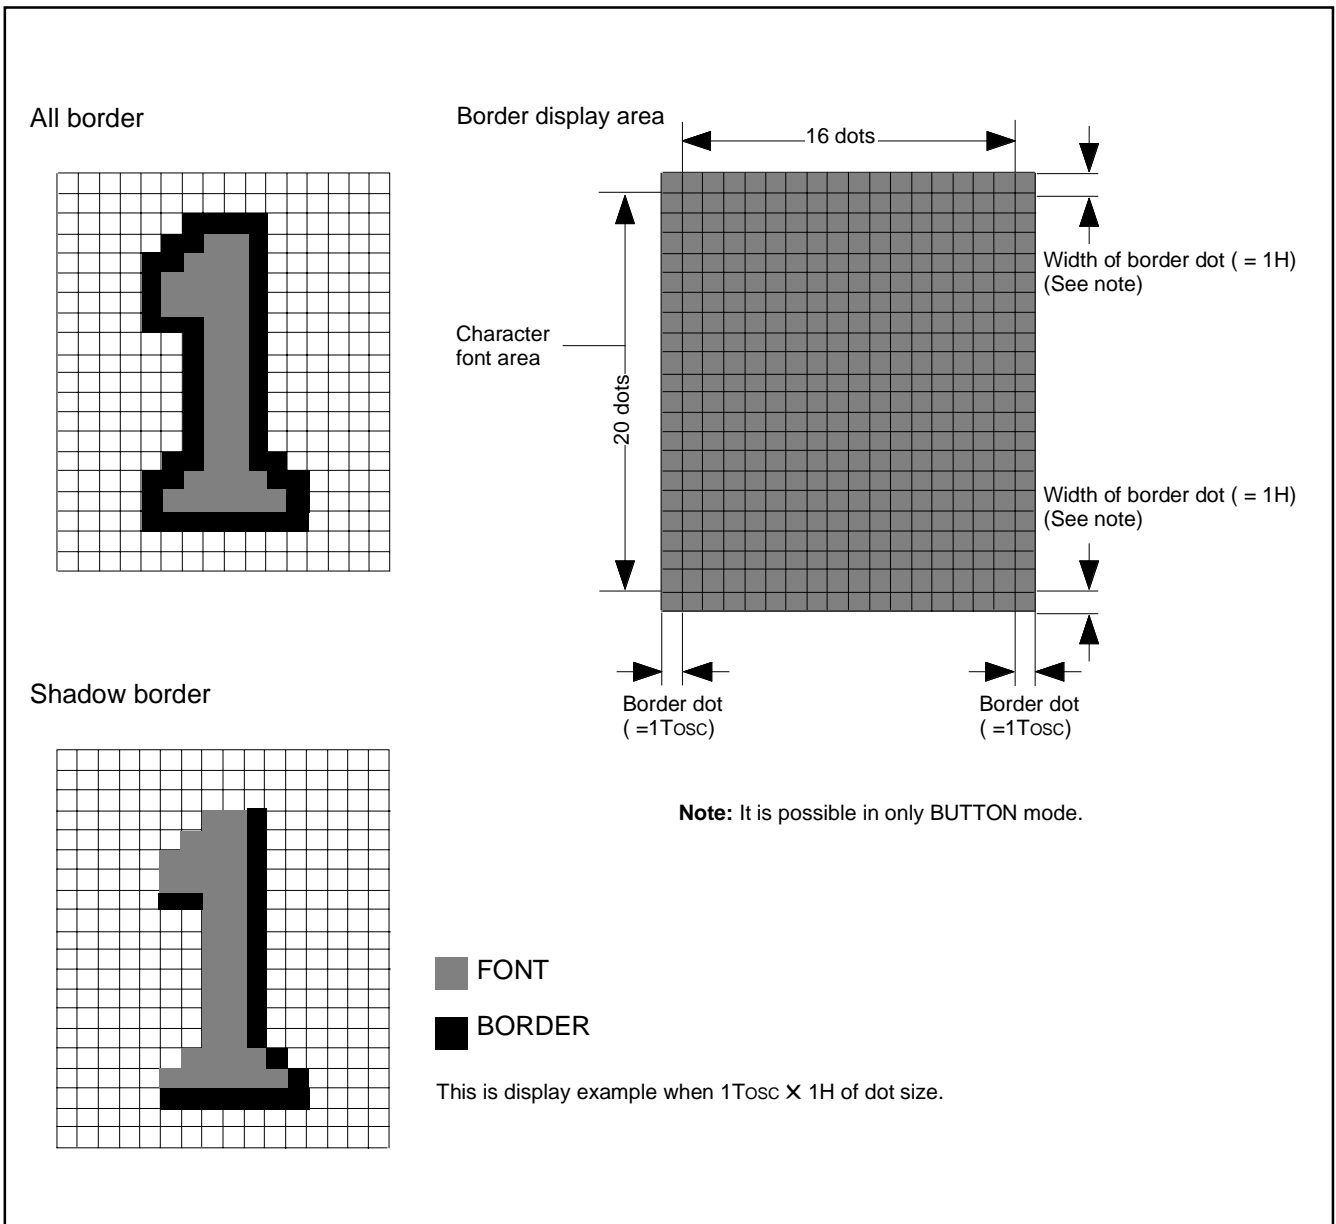

Fig. 8.10.23 Border Display Example and Border Area
- Notes 1:** The border dot area is the shaded area as shown in Figure 8.10.23.